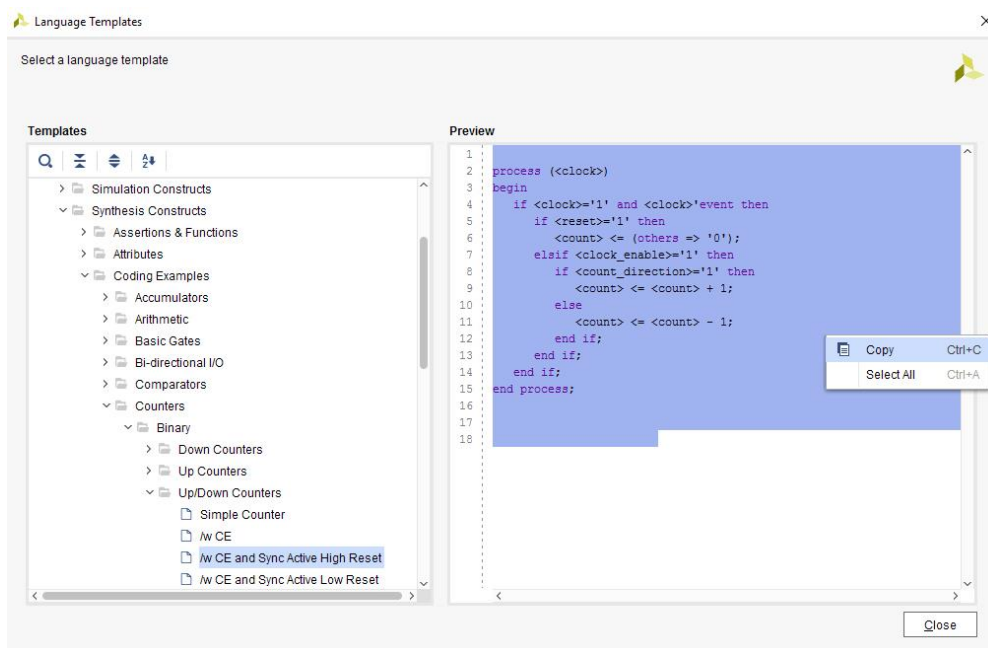

Figure 8
6. To copy and paste the template to our design source, select the **Preview** window, right click to open a drop-down menu and select **Select All** followed by **Copy** (Figure 8) and paste the template into the **counter** design source